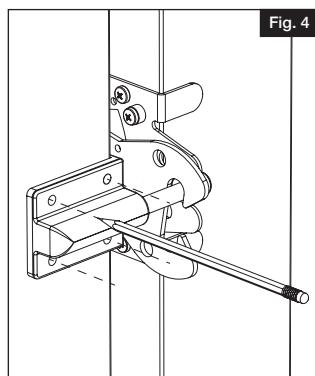

Fig. 4
- b. Mark pilot holes through the screw holes (Fig. 4).